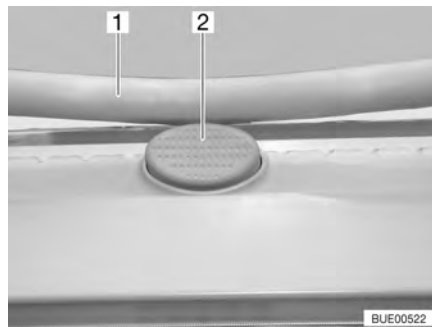

Fig. 27 Safety knob (hinged skylight)
- Press the safety knob (Fig. 27,2) and pull the bar (Fig. 27,1) down with both hands.
- Push the bar upwards with both hands until it is above the safety knob (Fig. 27,2).